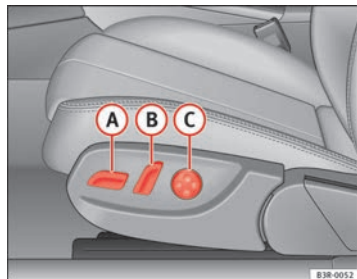
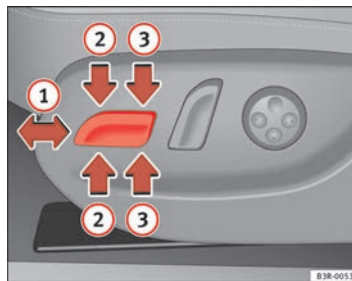

Fig. 107 Front seat:
Fig. 108 Front seat: Seat
- Press switch (A) ⇒ fig. 107 forwards or backwards (1) ⇒ fig. 108 ⇒ ⚠.